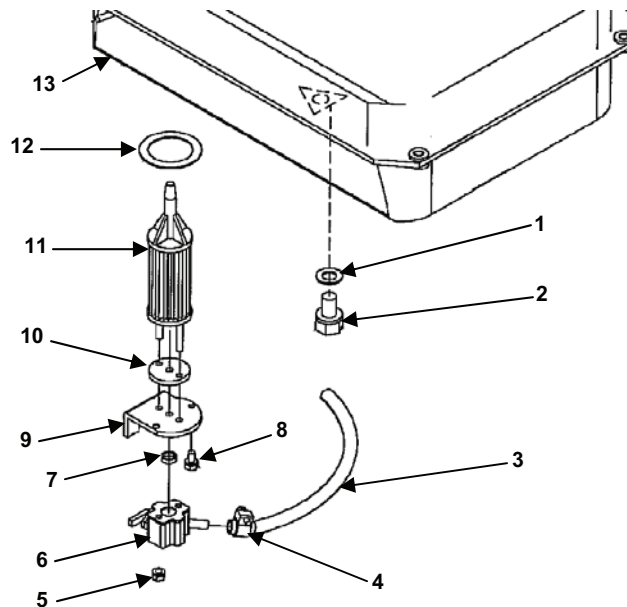

Figure 3. Fuel Filter Assembly.
1. Drain the fuel tank into a suitable container by removing the plug (Figure 3, item 2) and washer seal (Figure 3, item 1).
2. Install the plug (Figure 3, item 2), and washer seal (Figure 3, item 1) once the fuel tank is drained to avoid contaminants from getting inside the tank.
3. Remove fuel hose (Figure 3, item 3) from the fuel cock (Figure 3, item 6) by loosening the clamp (Figure 3, item 4).
4. Remove lock nut (Figure 3, item 5), remove fuel cock (Figure 3, item 6), and seal (Figure 3, item 7).
5. Remove screws (Figure 3, item 8), plate (Figure 3, item 9), and gasket (Figure 3, item 10).
6. Remove fuel filter (Figure 3, item 11), O-ring (Figure 3, item 12), from fuel tank (Figure 3, item 13).